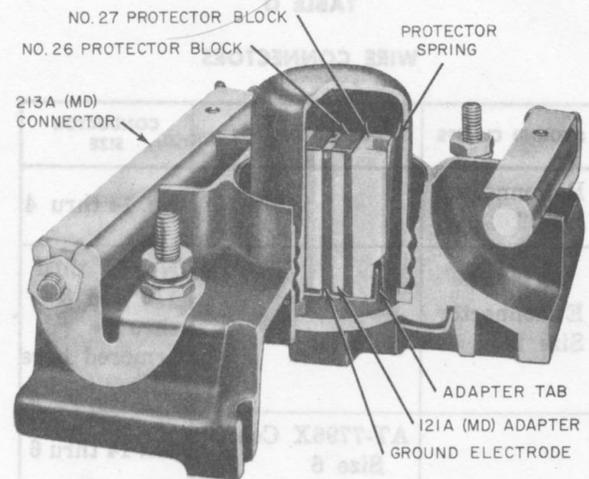

Fig. 49—Converted 98A (MD) Protector Using 121A (MD) Adapters and 213A (MD) Connectors
**16.02** For conversion of 98A (MD) protectors that are in service, see Fig. 49 and 50. Connectors may be omitted as specified in 16.04(a).